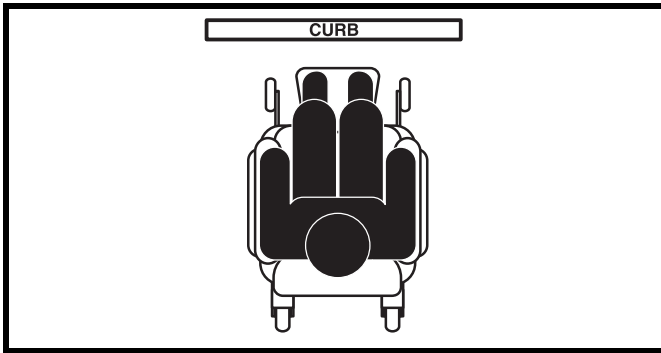

Figure 2. Correct Curb Approach
Proceed with extreme caution when driving near raised surfaces, unprotected ledges, and/or drop-offs (curbs, porches, stairs, etc.). Be sure your power chair is traveling perpendicular to any curb you may be required to navigate. See figure 2.
1. Approach the curb or obstacle slowly, and make sure the power chair is traveling perpendicular to the obstacle. See figure 2.